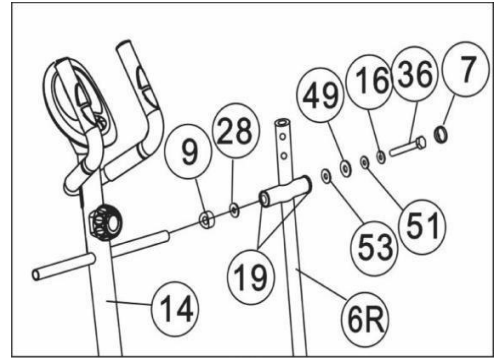

Figure 6
- Attach one Arc spacers (9) and Wave washer (28) to the right end of horizontal axle of Front upright frame (14). (make the gouge of the arc face inside)
- Insert right Handlebar support (6R) to the right end of horizontal axle of Front upright frame (14) (the long side of the handlebar face inside) and secure it with one Plastic flat washer (53), $\Phi 8$ Big washer (49), $\Phi 8$ spring washer (51), M8 Special washer (16), and M8×16 Bolt (36).
- After assembled the Nut cap (7) to the M8×16 Bolt (36), the right Handlebar support (6R) can move freely.
- Do the same steps as the above to assemble the left Handlebar support (6L). (Refer figure 6)